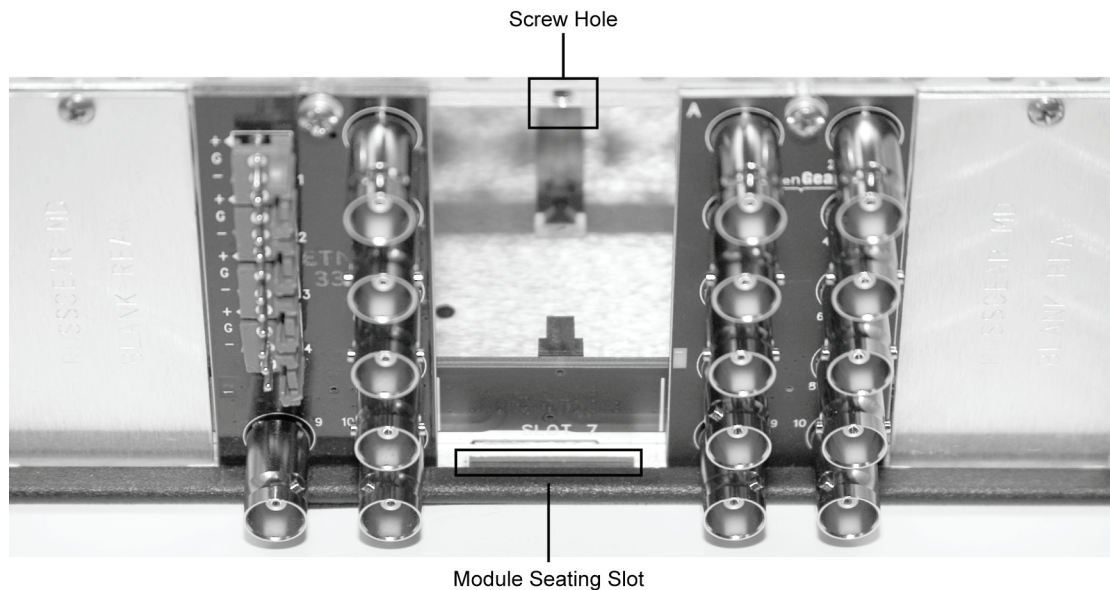

Figure 2. Rear Module Installation — DFR-8310 Series Frame (DED-8420 not shown)
4. As shown in **Figure 2**, seat the bottom of the rear module in the seating slot at the base of the back plane of the frame.